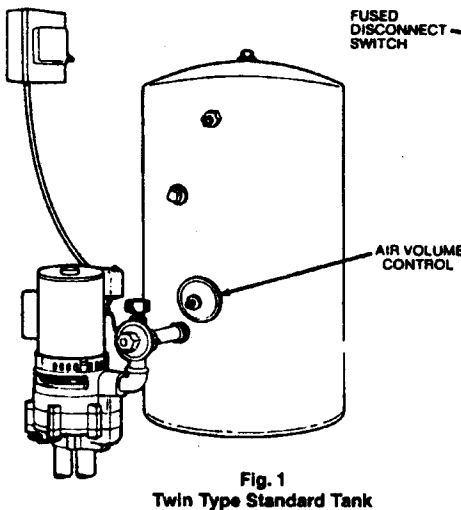

Fig. 1
- The air control tube is connected into the 1/4" pipe tapping in the pump base suction, and is used with standard pressure tank only (See Fig. 1).